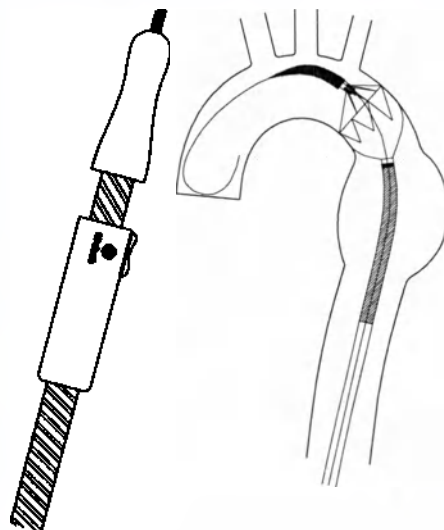

Fig. 7 Slowly deploy the stent graft
- Slowly **deploy** the stent graft. Hold the front grip of the delivery system stationary, then rotate the slider grip counterclockwise to slowly deploy the proximal part of the stent graft until the covered stent adheres to the vascular wall. (Fig. 7)